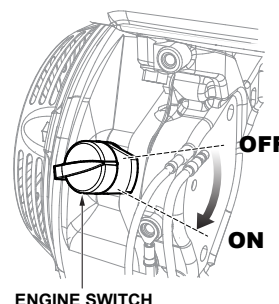

Figure 22. Engine ON/OFF Switch (ON)
5. Turn the engine switch (Figure 22) to the **ON** position.